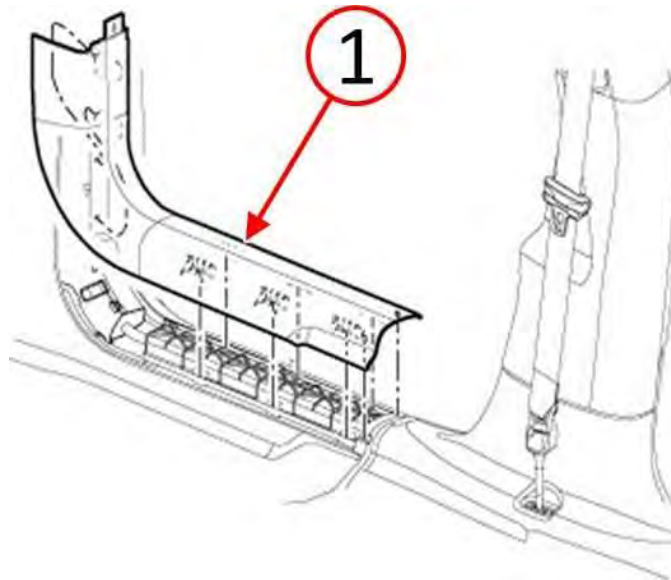

Fig. 16 Install Right Front Door Sill Scuff Plate
19. Position the front door sill scuff plate (1) then hand tap to engage the retaining clips securing it to the door sill and lower B-pillar trim (Fig. 16).